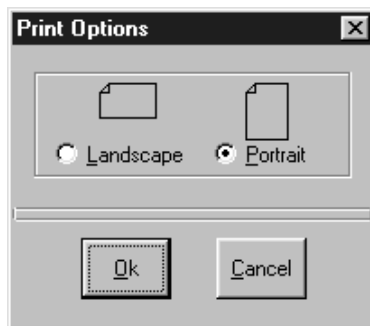

Figure 7-17. Print Options Window
1. Select the Print button (Figure 7-16) or **Options>Print** from the menu. The Print Options window (Figure 7-17) opens.